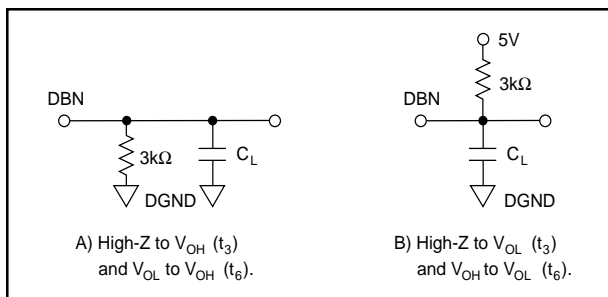
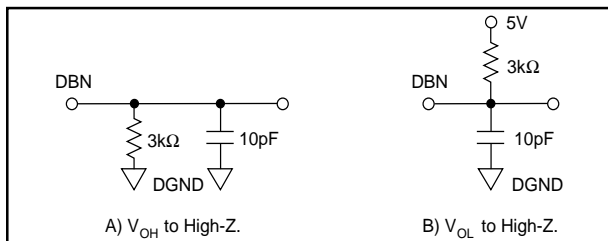

FIGURE 1. Load Circuits for Access Time.
FIGURE 2. Load Circuits for Output Float Delay.
NOTES: (1) TTL, LSTTL, and 5V CMOS compatible. (2) FSR means Full Scale Range. For example, unit connected for  $\pm 10V$  range has 20V FSR. (3) Externally adjustable to zero. (4) See Table I. USB – Unipolar Straight Binary; BTC – Binary Two's Complement; BOB – Bipolar Offset Binary; NRZ – Non Return to Zero. (5) Max supply current is specified at rated supply voltages. (6) All input control signals are specified with  $t_{RISE} = t_{FALL} = 5ns$  (10% to 90% of 5V) and timed from a voltage level of 1.6V. (7)  $t_{13}$  is measured with the load circuits of Figure 1 and defined as the time required for an output to cross 0.8V or 2.4V. (8)  $t_{16}$  is defined as the time required for the data lines to change 0.5V when loaded with the circuits of Figure 2.